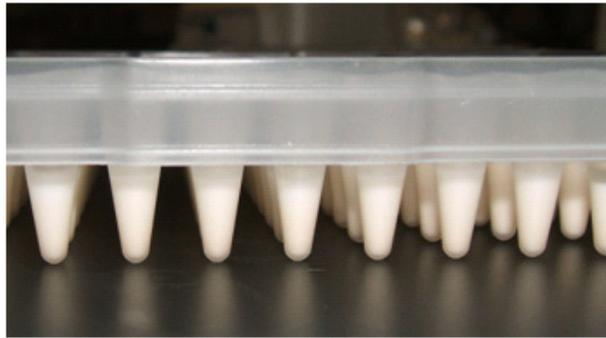

Figure 15 Emulsion transferred to a 96-well plate.
12. Gently dispense 100 μ L of emulsion into each well of a 96-well PCR plate, then seal the plate with clear adhesive film (see Figure 15).